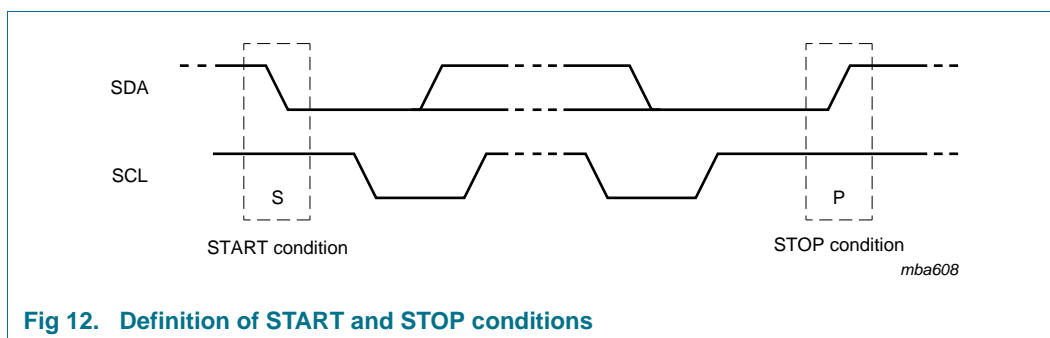

Fig 12. Definition of START and STOP conditions
Both data and clock lines remain HIGH when the bus is not busy. A HIGH-to-LOW transition of the data line while the clock is HIGH is defined as the START condition (S). A LOW-to-HIGH transition of the data line while the clock is HIGH is defined as the STOP condition (P) (see Figure 12).